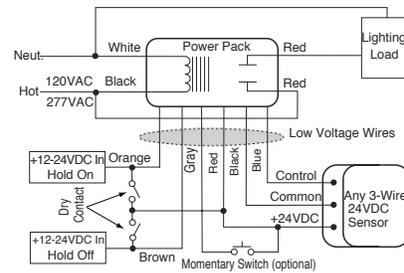

Figure 2
4. Connect the power pack input wires as shown in Figure 2.
5. Refer to Figure 2 to verify the power pack is wired correctly.